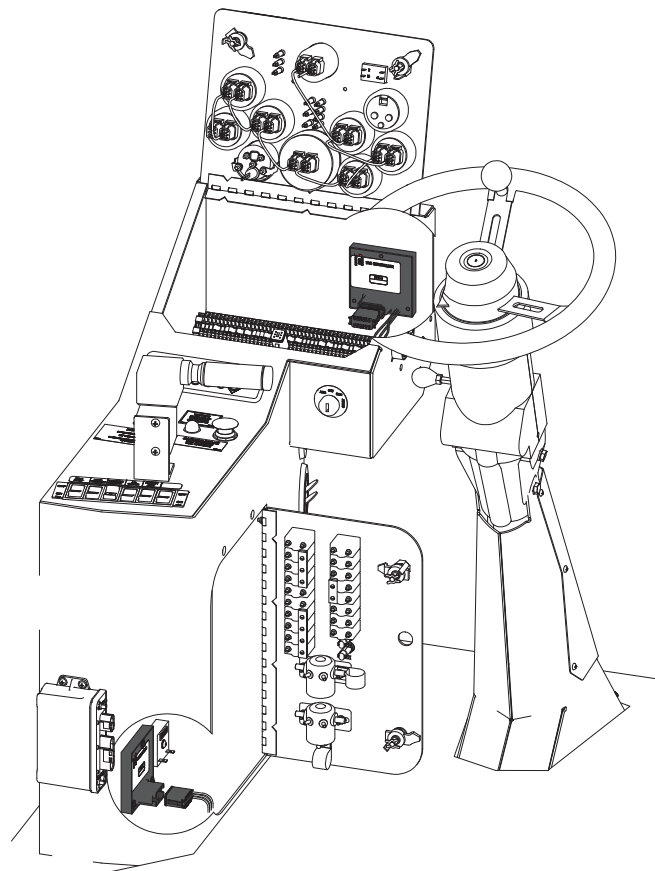

Figure 5-1-4 Fan Controllers, located in Control Console.
- Disconnect fan controllers, located in the control console (see Figure 5-1-4).